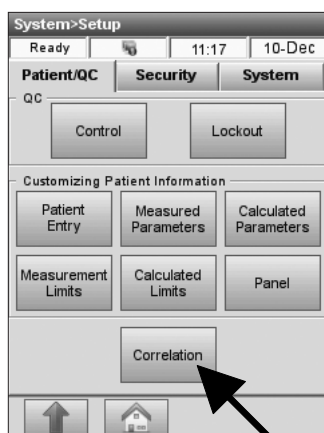

Fig. 3-40 Select Correlation
2. On the **<Patient/QC>** tab, press **<Correlation>** (Fig. 3-40).